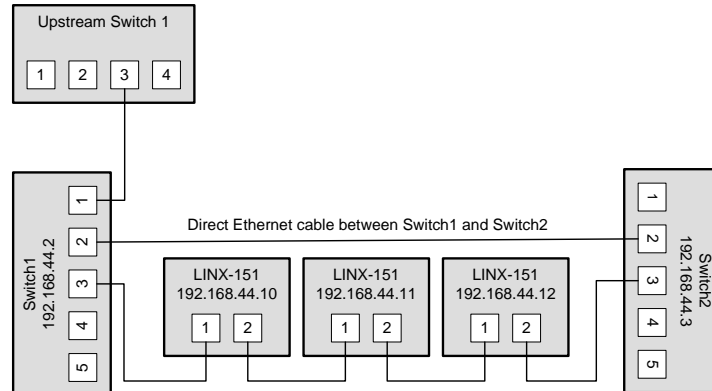

Figure 152: Single upstream connection.
**Single upstream connection:** Switch1 (or Switch2, but not both) is connected to the upstream network while Switch2 only provides a redundant path to the Loytec devices. The redundant path is created by a direct Ethernet cable between Switch1 and Switch2 which needs to be plugged into a lower-numbered port than the L-IP devices are connected to. If this is not possible, the STP port priority for the cross-connection cable needs to be set to a low value. The RSTP domain should be restricted to Switch1 and Switch2. This can be done by enabling a BPDU filter on the port on Upstream Switch 1. This will block all RSTP packets to enter the upstream network. A sample setup for this topology is shown in Figure 152.